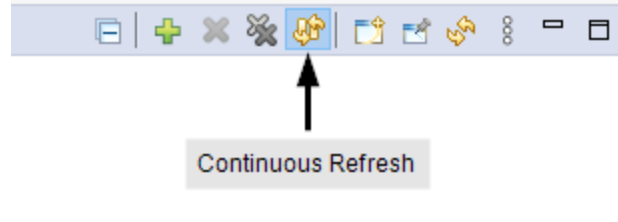

Fig. 3.5: Enable Continuous Refresh.
5. At the top of the expressions window, enable *continuous refresh* as shown in Fig. 3.5.